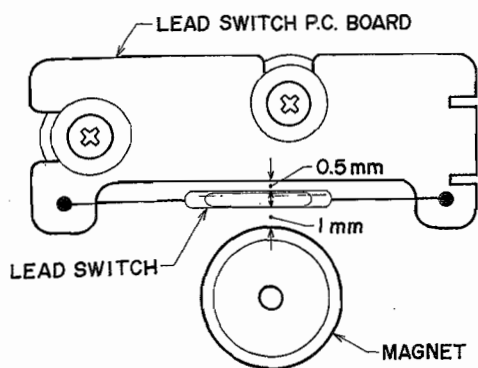

Fig. 20
10. LEAD SWITCH POSITION ADJUSTMENT (See Fig. 20)
Adjust Lead Switch Position to obtain conditions shown in Fig. 20.